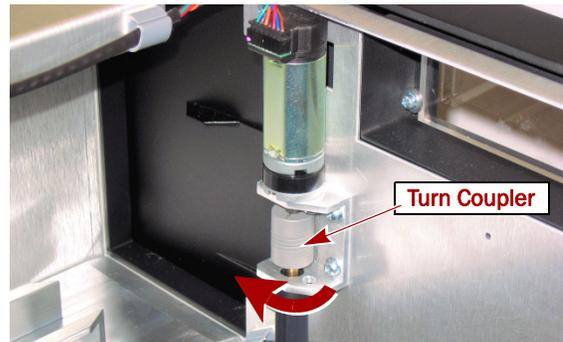

Figure 6. Turn Front Z-Axis Motor Coupler
4. Raise the front Z-Axis about 1/2 inch by turning the motor coupler clockwise (Figure 6).